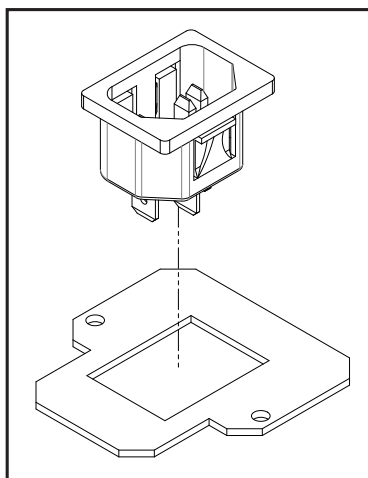

Figure 84: Electrical Adapter Plate
3. Press the IEC outlet into the adapter plate (included in the manual bag). Refer to Figure 84 for proper geometry and orientation. **Make sure tangs are completely seated of the plug will not engage fully.**